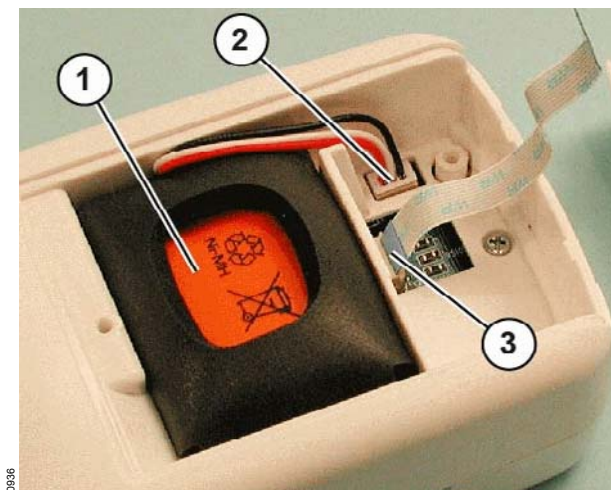

Fig. 10 Change battery
2. Inserting the battery (Fig. 10/1) and mounting the Barcode reader cover, making sure that the blue face (Fig. 10/3) of the flat cable and the black cable (Fig. 10/2) is positioned correctly.